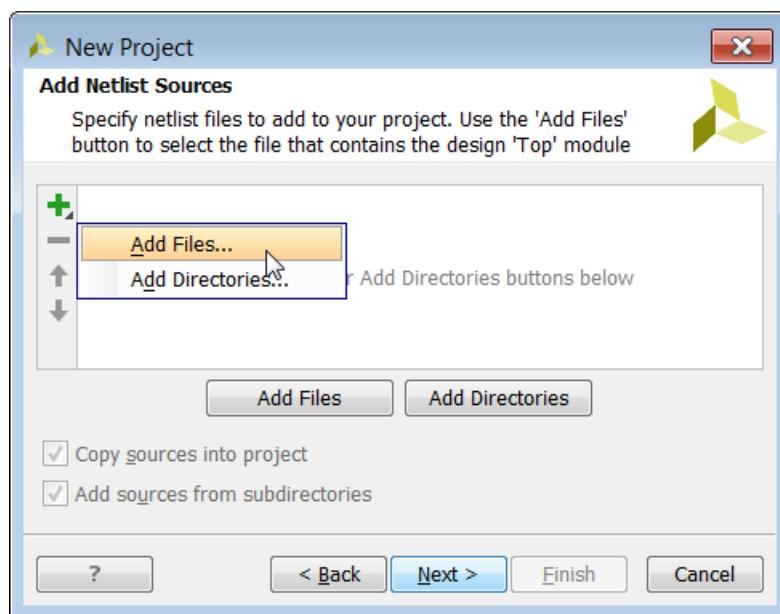

Figure 11-6: Adding Files to the Post-Synthesis Project
3. In the Add Netlist Sources Page click on the '+' sign to **Add Files**, as seen in Figure 11-6, page 154.